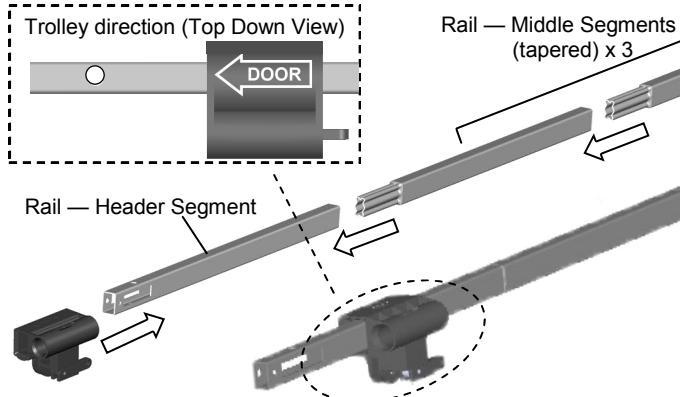

Fig.1
1. Prepare the rails as shown in Fig.1.
3. Slide the Trolley onto the rail from the Header Segment. Make sure the arrow is pointing towards the door as shown in Fig.1.